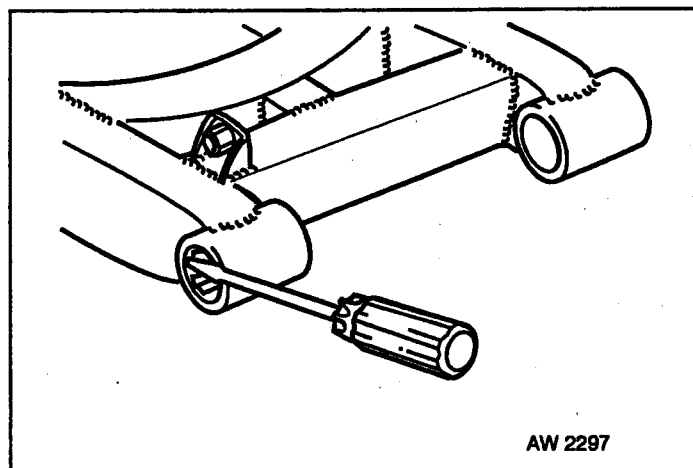

Fig 9.3 'O' ring Seal Removal
- (1) Fig 9.3 refers. There are two 'O' ring seals on each side of the two bearings. Pry the seals out with a seal remover or large screwdriver and discard.